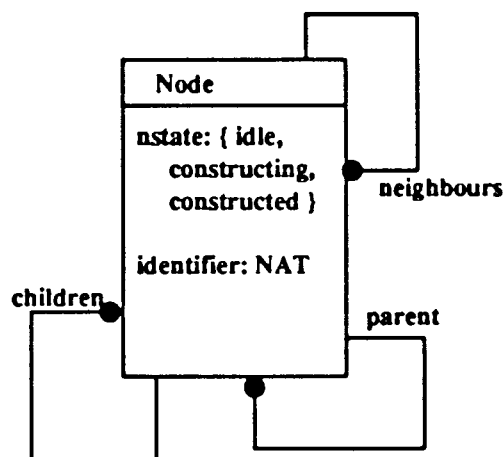

Figure 2: Object Model of Node
- a Define the data and initialisation parts of a machine to represent the concept of a “node” as defined in Figure 2. A node has a current state (either “idle”, “constructing” or “constructed”), a parent node, a set of “children” nodes, and a set of “neighbour” nodes. It also has a numeric identifier.